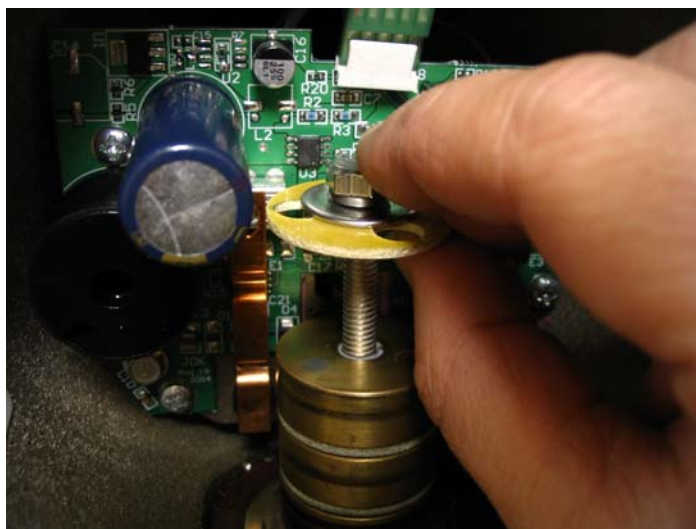

Fig.3
- a.) Remove the bolt, washers, and fiberglass spacer from the top of the slip ring assembly using a 10mm box-end wrench. See Fig.3